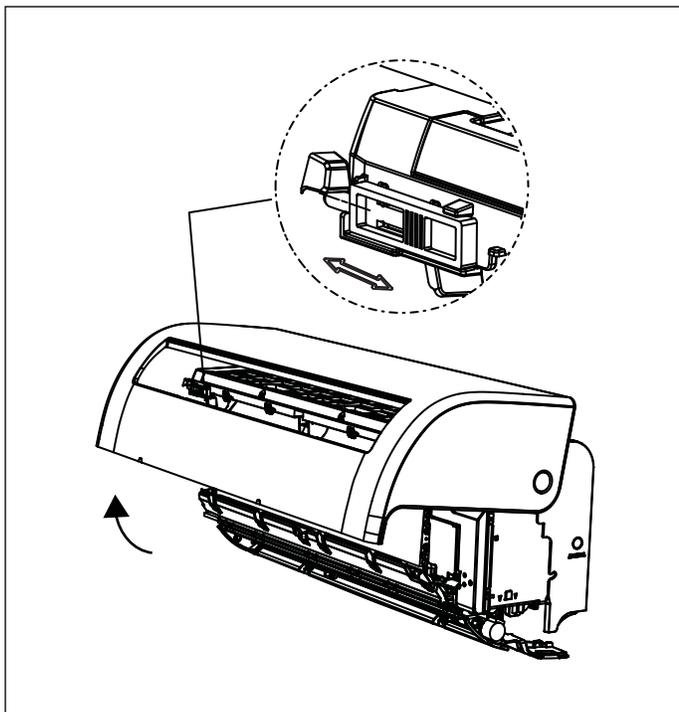

Figure 12
3. Open the panel, and fix the position of the panel by the latch (see Fig.12).